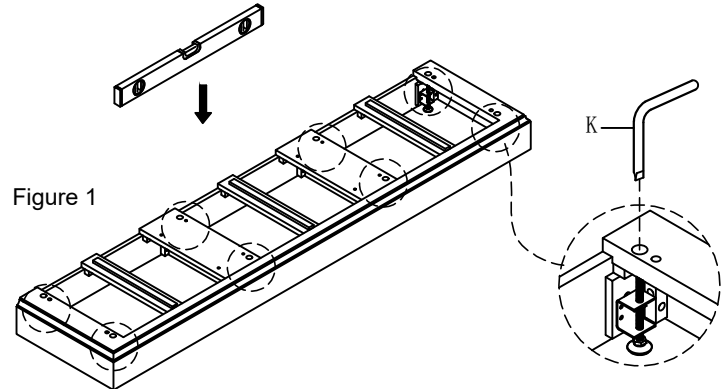

Figure 1
1. Position the base where the unit will sit. Use a level to make sure the base is leveled. Level the base using the adjustable feet with L wrench (K) as shown in Figure 1. Level the base left to right & front to back. Adjust ALL levelers. *Note: The longer base units have more levelers.